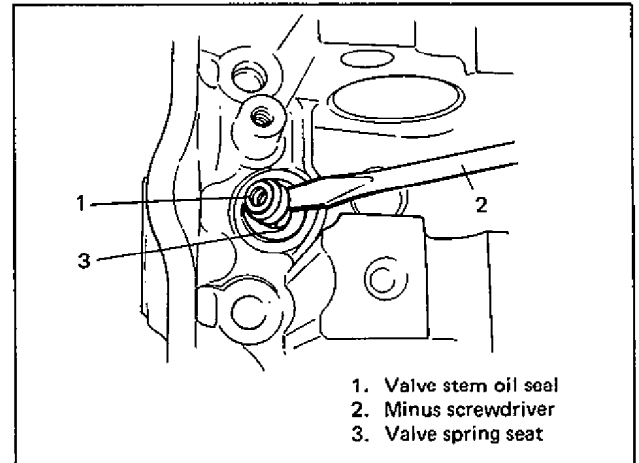

Fig. 6A-79 Valve Stem Oil Seal Removal
7. Using special tool (Valve guide remover), drive the valve guide out from combustion chamber side to valve spring side (Figure 6A-80).